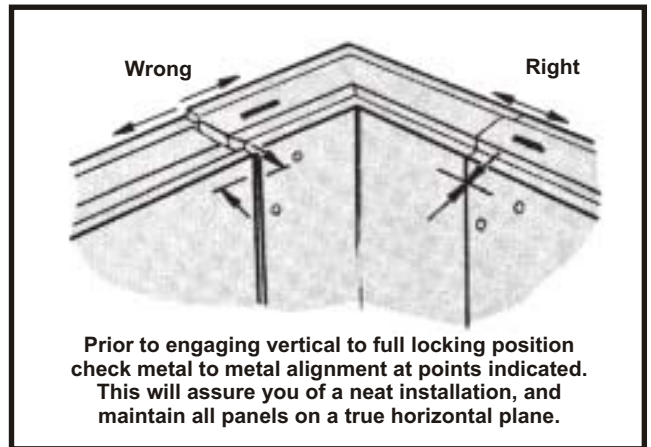
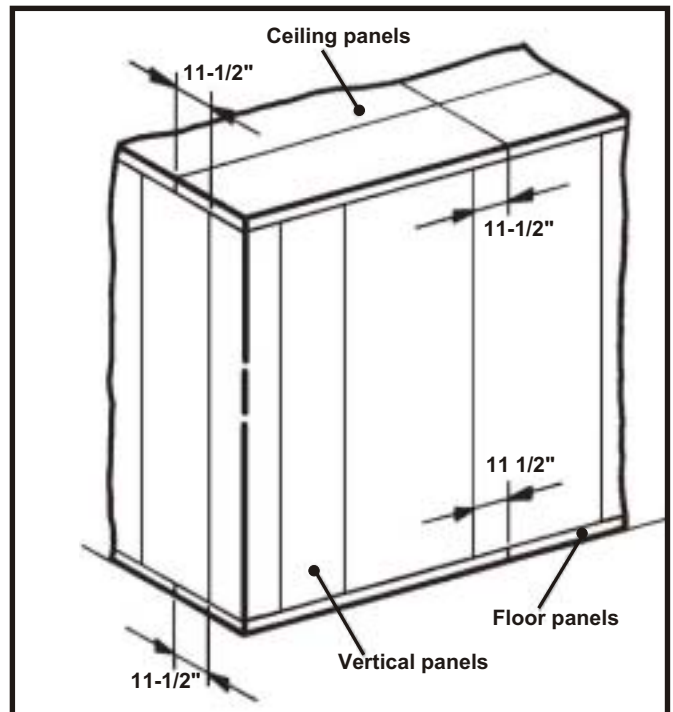

Fig. 13
Fig. 17
- C. Next, erect the vertical panel called for by the plan view to the right of the corner panel. Make sure to align the tops of the panels. (See Fig. 13.) This will help to insure that the panels remain plumb and level. Lock these panels together in the fully engaged position (except for the locks to the floor panels). Turn the locks to the floor panels to "engaged position" only. A quick and accurate way to check for correct alignment is to measure the distance from the edge of the ceiling to the nearest vertical panel joint. This measurement must be 11-1/2"; it must be maintained at every joint to assure proper assembly of the Shelter. (See Fig. 17.)
- B. Set the first ceiling panel in place on top of the vertical panels as per the plan view. Align all exterior edges of the ceiling with the installed vertical panels. A quick and accurate way to check for correct alignment is to measure the distance from the edge of the ceiling to the nearest vertical panel joint. This measurement must be 11-1/2"; it must be maintained at every joint to assure proper assembly of the Shelter. (See Fig. 17.)
- A. Set the 23-1/2" or 46-1/2" ceiling end panel in place on top of the installed vertical panels, as per plan view. Align the ceiling panel with the verticals as was described in section 6. Once the ceiling panels are set properly, lock the wall-to-ceiling locks in the fully engaged position. Continue erecting wall and ceiling panels in this manner until all panels have been installed. A quick and accurate way to check for correct alignment is to measure the distance from the edge of the ceiling to the nearest vertical panel joint. This measurement must be 11-1/2"; it must be maintained at every joint to assure proper assembly of the walk-in. (See Fig. 17.)